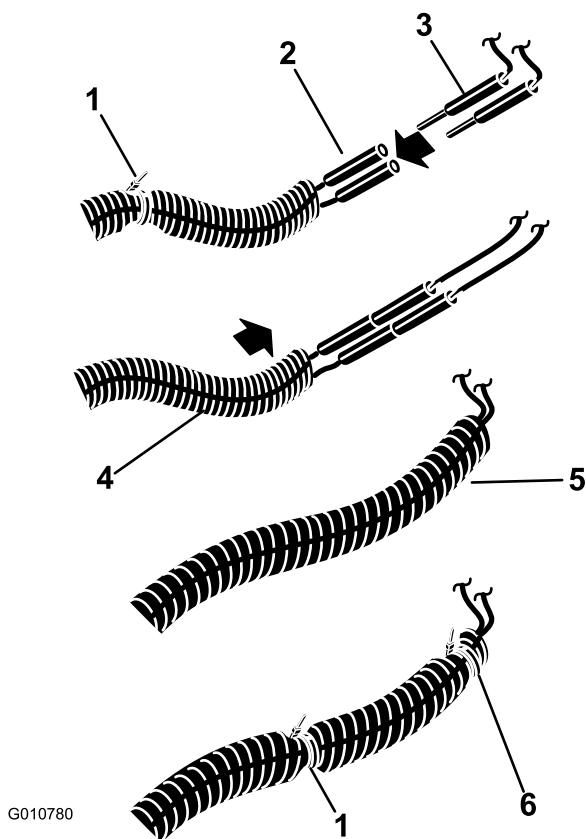

Figure 10
5. Connect the lamp to the accessory harness (Figure 10).